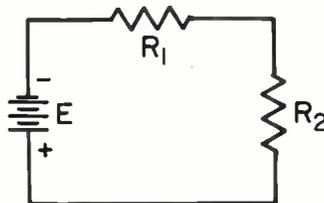

Fig. 50
4. If two resistances of equal value are in series across a voltage source, the voltage across one resistor is the same as that across the other. If $R_1 = R_2$ in Fig. 50, and if the voltage across R_1 is 15 V, then the voltage across R_2 is _____ volts, and the voltage of battery E is _____ volts. If two identical light bulbs, each rated at 15 V, are connected in series, the battery furnishing current to the bulbs should have a voltage of _____ volts if the bulbs are to light at normal brilliancy.